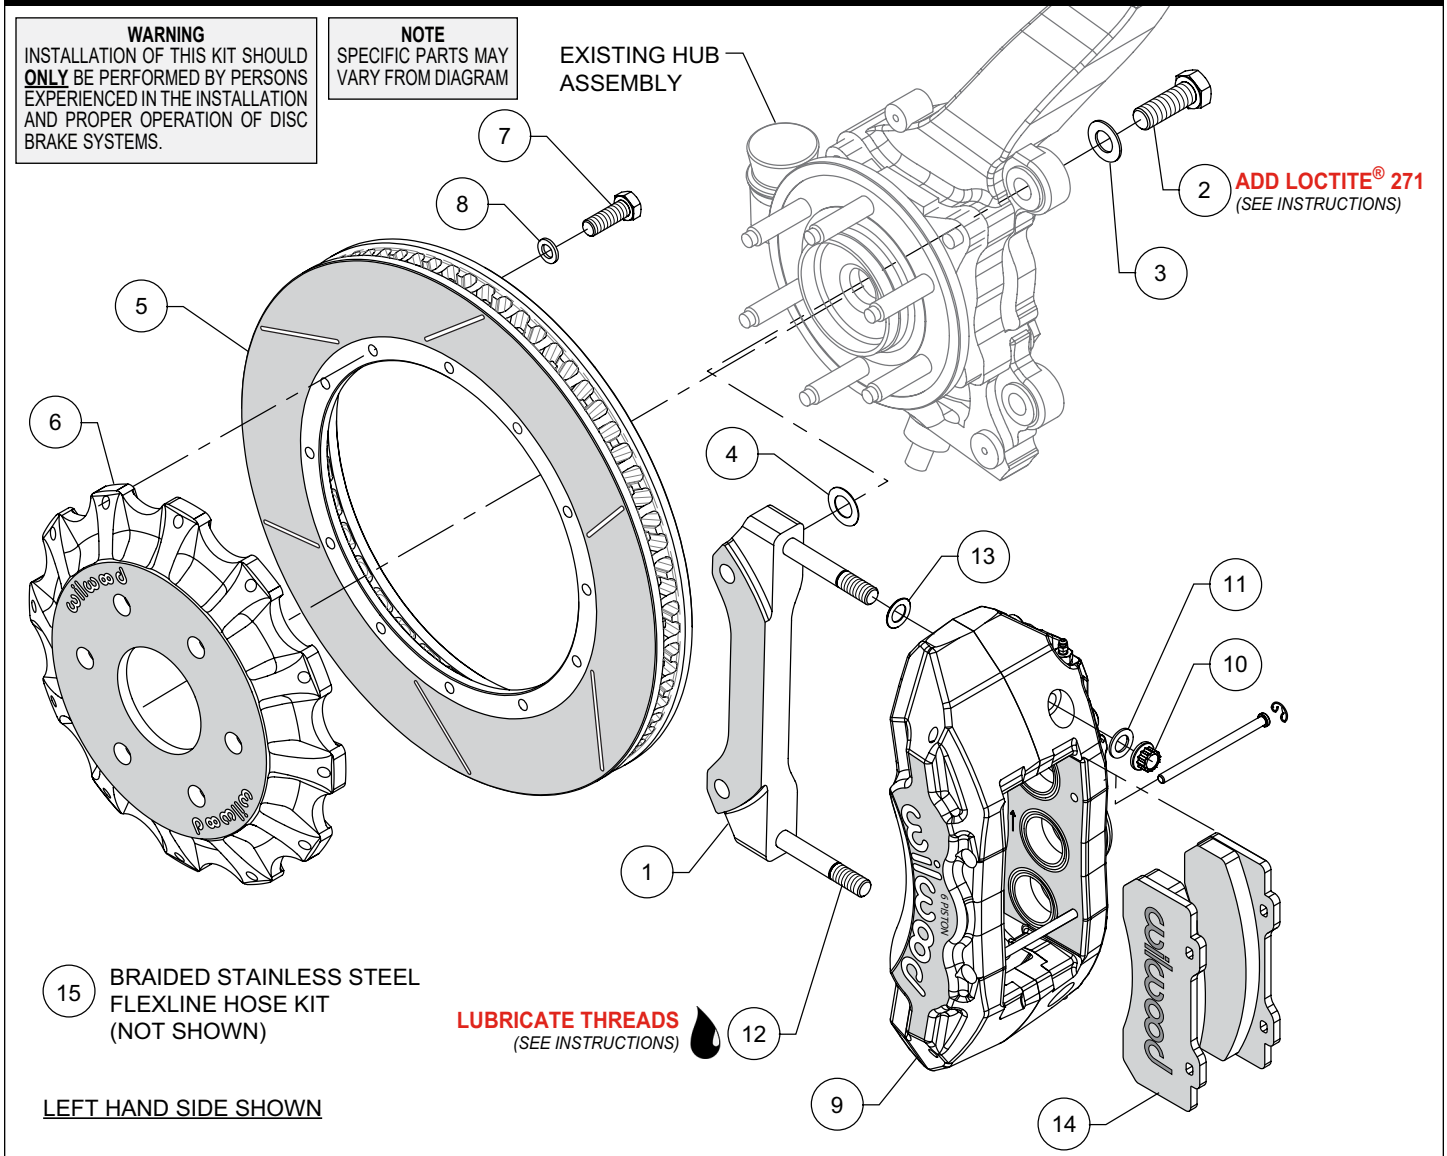
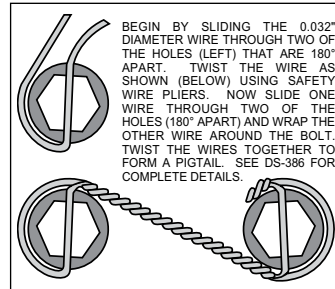

Figure 1. Typical Installation Configuration
Figure 3. Safety Wire Diagram
NOTE: Numbers in parenthesis refer to the parts list and Figure 1 on the preceding pages.
- The caliper mount bracket (1) should initially be installed with clean, dry threads on the mounting bolts. Orient the bracket as shown in Figure 1 and Photo 1, and install using bolts (2) and washers (3). Initially place one .024 thick shim (4) on each bolt between the bracket and upright, Figure 1. Temporarily tighten the mounting bolts. **NOTE:** *The bracket must fit squarely against the mount bosses on the upright.* Inspect for interference from casting irregularities, machining ridges, burrs, etc. Later, after the caliper alignment has been checked, the mount bolts will be secured using red *Loctite*[®] 271.
- Orient the rotor (5) and the hat (6) as shown in Figure 1 and Photo 2. Attach rotor to hat using bolts (7) and washers (8). Torque bolts to 25 ft-lb using a criss-cross pattern. For an added measure of security, the bolts may be safety wired using standard 0.032 inch diameter stainless steel safety wire as shown in Figure 3. Refer to Wilwood's data sheet DS-386 (available at www.wilwood.com/Pdf/DataSheets/ds386.pdf) for complete safety wire installation instructions.
- NOTE:** *This kit contains distinct right and left hand calipers that must be mounted in a specific direction, as described below.* Lubricate the caliper mounting studs (12) with lightweight oil. Initially place one .032" thick shim (13) on each stud as shown in Figure 1 and Photo 3. Mount the caliper (9) onto the bracket (1) using lock nuts (10) and washers (11), Figure 1. Ensure that the caliper is mounted so that the largest pistons are at the rotor exit end of the caliper, in relation to the direction of rotor rotation. Temporarily tighten the lock nuts and view the rotor through the top opening of the caliper. The rotor should be centered in the caliper, Photo 4. If not, adjust by adding or subtracting shims (4) between the bracket and the upright. Always use the same amount of shims on each of the two mounting bolts. Once the caliper alignment is correct, remove the bracket mounting bolts (2) one at a time, apply red *Loctite*[®] 271 to the threads, and torque to 120 ft-lb.